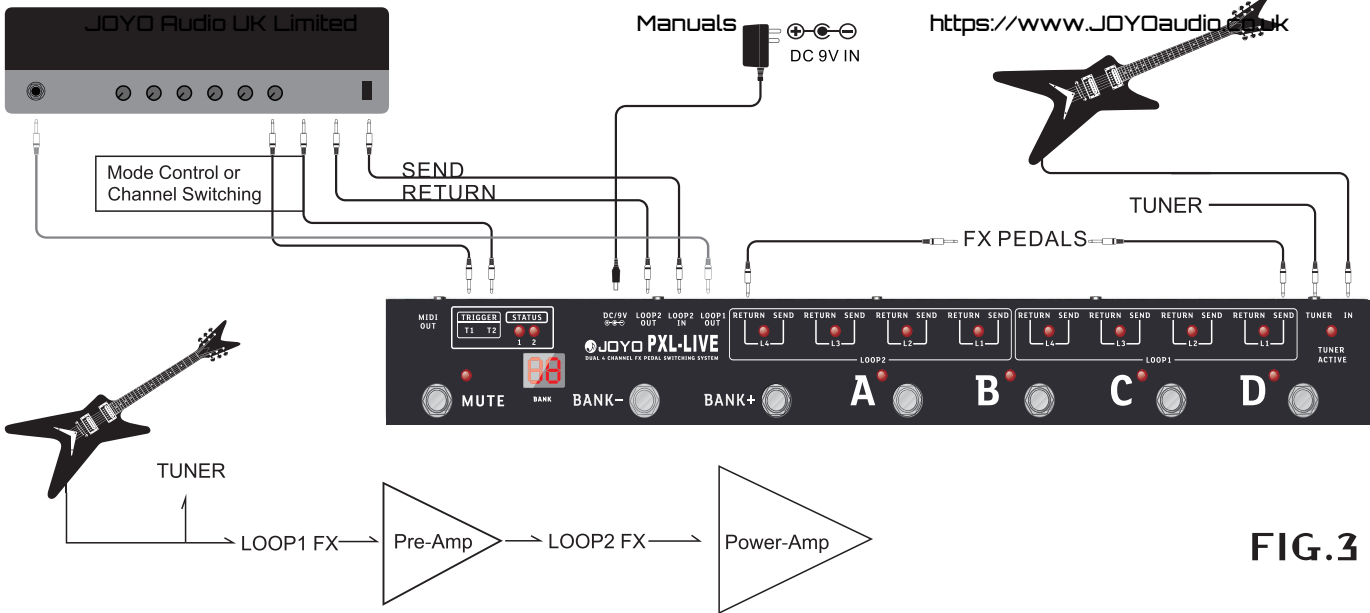
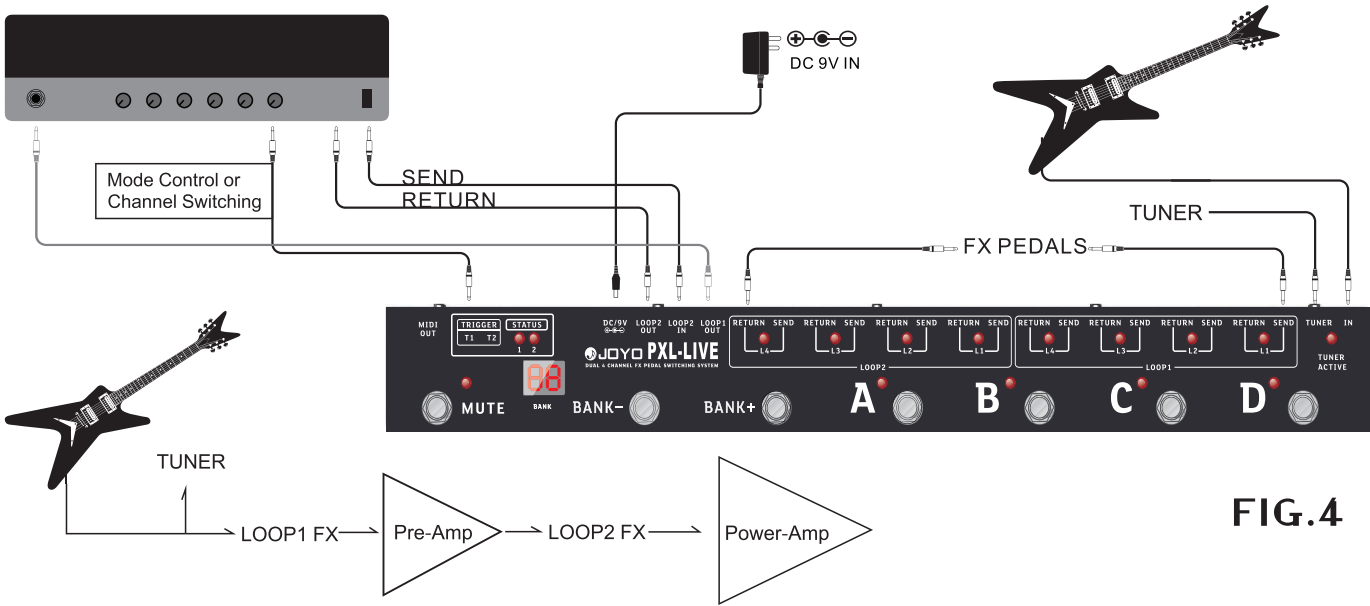

FIG.3
FIG.4
- 1: When connected to IN, and LOOP2 OUT is connected, 8 channels are used, then the PXL-LIVE is in a 8-channel mode, shown as **Fig.1** and **Fig.2**.When connected to IN, both LOOP1 and LOOP2 out are connected, the PXL-LIVE is in Dual LOOP modes. Both Loops are independent, shown as **Fig.3** and **Fig.4**